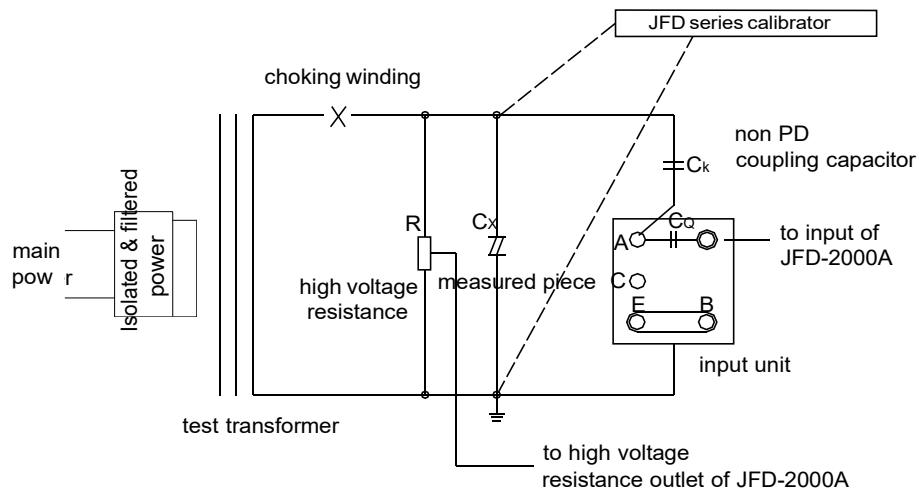

Fig.4, Standard connecting circuit of partial discharge measuring (parallel connection).
6.1.4 The partial discharge measuring circuit. (Fig.4)